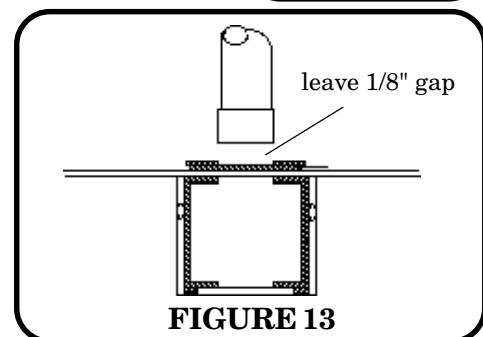

FIGURE 13
- g) Position the soft gasket and stainless steel washer to seal the cartridge. (See Figure 13.)